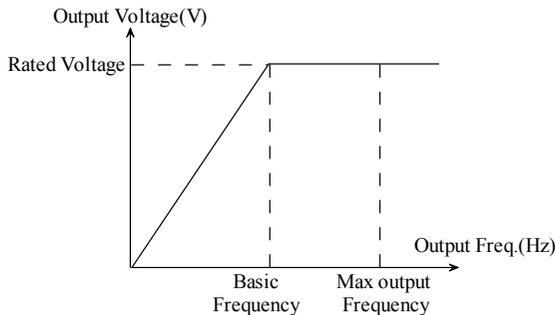

Fig. 5-0-1 V/F characteristic diagram
- ◆ Basic Frequency  $F_{BASE}$ : Basic operating frequency is the Min output frequency when the output voltage of inverter is equal to rated voltage  $U_N$ . Usually, the motor rated frequency can be treated as basic frequency. The changing range of basic frequency  $F_{BASE}$  of this series inverter is from 0.10 to 400.0Hz. Normally,  $F_{BASE}$  is selected based on motor rated frequency. In some special state,  $F_{BASE}$  can be set according to application needed. But at this time, the V/F characteristics of the load and its contributed need must be considered. As shown in Fig. 5-0-1